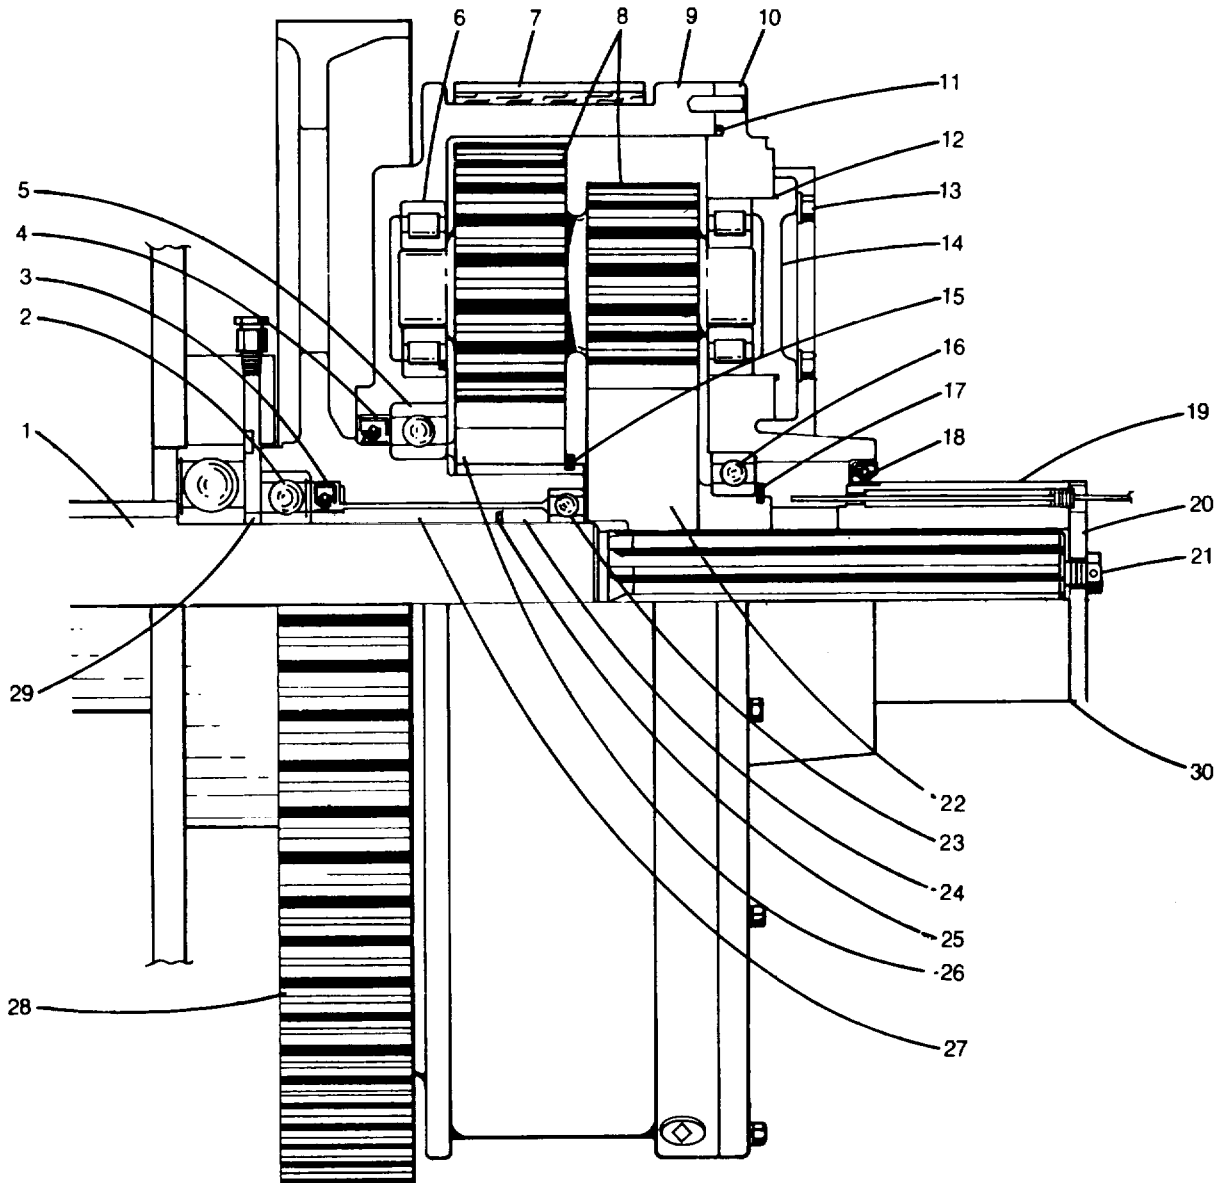

Fig. 1
1.1 Low Speed Planetary (Fig. 1)